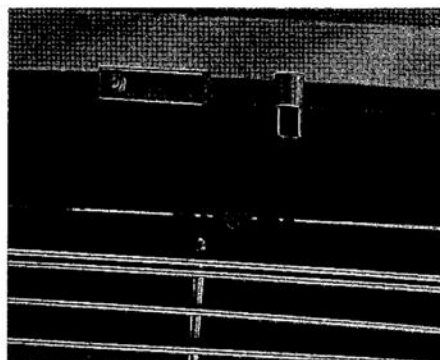

Fig. 23
6. Lids without brazed-in spacer tube: Check length of spacer tube to ensure that it does not protrude beyond the surface of the reinforcing panel. Round off the edges of the bellcrank arm to ensure that it does not strike the weather strip (see Fig. 23). In new version lids the above steps may be omitted since the bellcrank seat is located farther away from the edge of the lid.